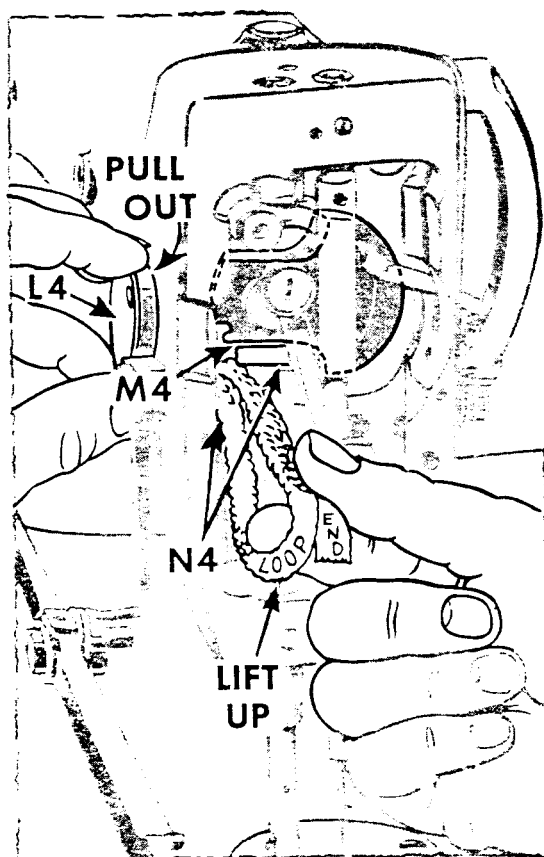

Fig. 60. Removing Oil-Removing Wick Assembly 147056
(See Fig. 60)
2. Lift wick LOOP up and off lower presser bar bushing and lift wick END out of oil pool behind needle bar bushing, as shown in **Fig. 60**.
3. Simultaneously push upward against wick and wick holder at **N4**, while pulling outward gently on hinge plate and cover **L4**, as shown in **Fig. 60**, removing hinge plate and cover with oil-removing wick and holder body from the machine.